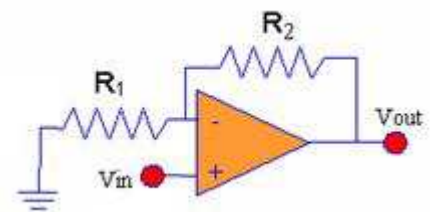

Figure 9
- 1- Construct the Op-Amp circuit as shown in the Figure 9 using  **$R_1 = 1K\Omega$  and  $R_2 = 2.2K\Omega$** .